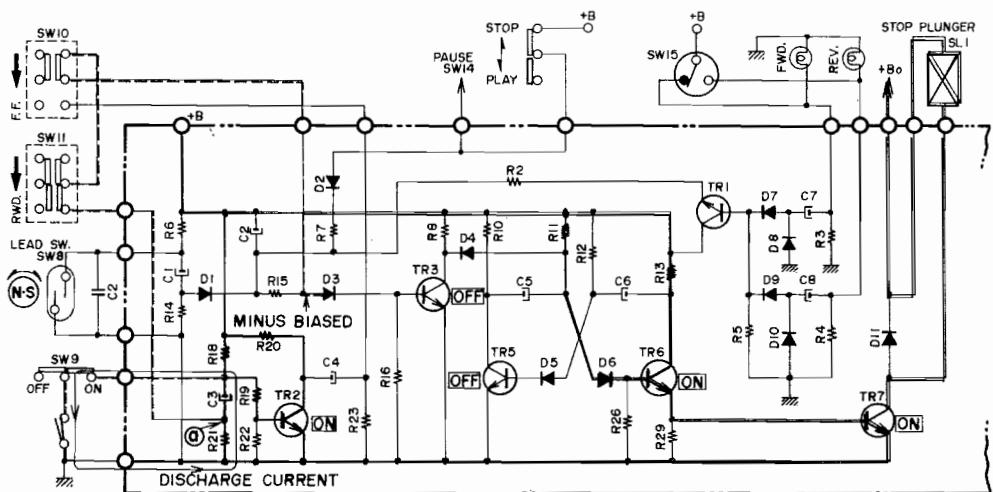

Fig. 42
As shown in Fig. 42, there is a switch inside the tape counter which makes contact when the tape counter scale reaches "900" and separates when the scale reaches "000". Memory Wind Switch SW19 is thus turned ON, and when the scale reaches "000", the syscon circuit operates and the deck enters STOP mode.
OPERATION DURING REWIND (Refer to Fig. 42)
- 2) When the decreasing tape counter scale becomes "000", the contact point inside the tape counter which was momentarily activated at "999", makes contact and the electric charge (charged at condenser C3) passes resistor R21 and as shown in Fig. 42, discharge begins.
- 3) As condenser C3 begins to be discharged, the voltage at point ③ increases and becomes minus and the anode side of diode D3 is minus biased.
- 1) Once power is supplied, the syscon assumes a stabilized condition as described above. However, as shown in Fig. 42, because play switch SW12 separates when the Fwd Button is depressed, syscon circuit operation becomes unstable.